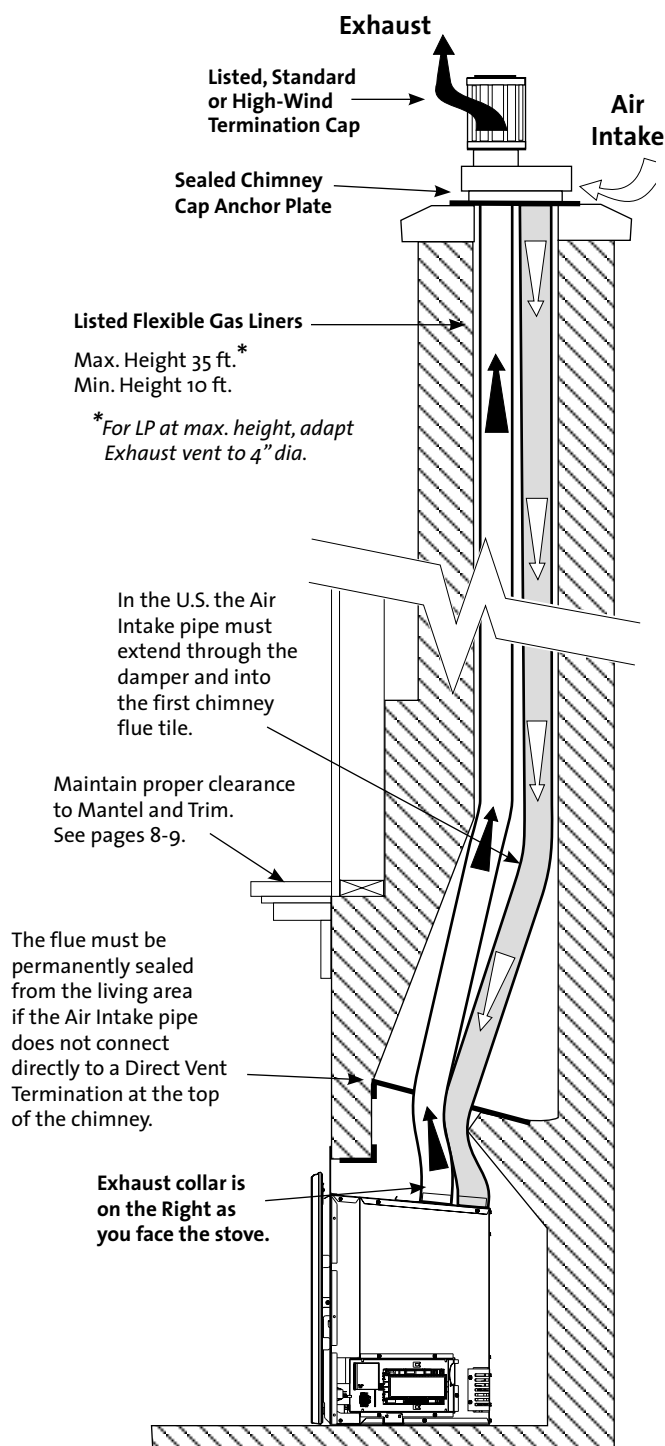

Figure 6.1. Masonry Fireplace Venting Configuration.
- The minimum height of termination cap from the top of the unit shall be no less than 10 ft.(3.05 m), and the maximum height shall be no more than 35 ft. (10.67 m). See figures 6.1 - 6.2.
This appliance must be vented through the chimney by a pair of 3 inch flexible aluminum liners listed for use with gas appliances. One duct is attached to the exhaust port on the top of the unit and will carry the exhaust gases to the outside of the house. This exhaust liner must run the full length of the chimney and be directly connected to the chimney termination cap. See figures 6.1 - 6.2.
If the intake flex does not extend the full length of the chimney and connect to the unit and the termination cap - **A NONCOMBUSTIBLE BLOCK OFF PLATE MUST BE CONSTRUCTED AND INSTALLED ABOVE THE UNIT BELOW THE END OF THE INTAKE DUCT** (normally at the damper area). See figure 6.1.